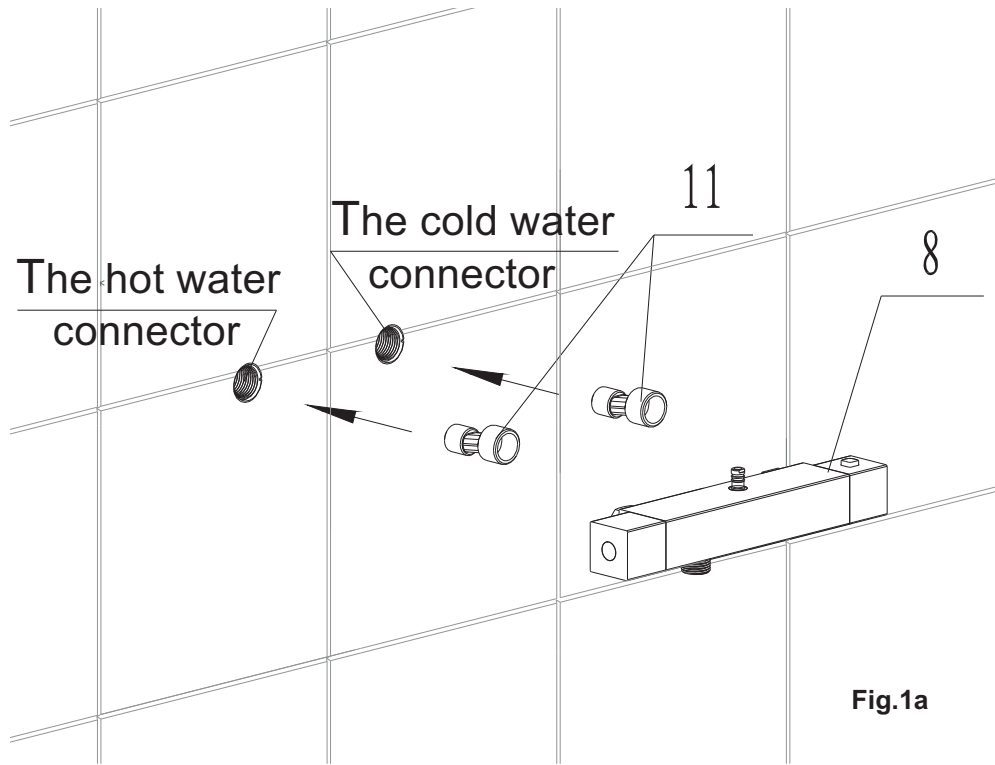
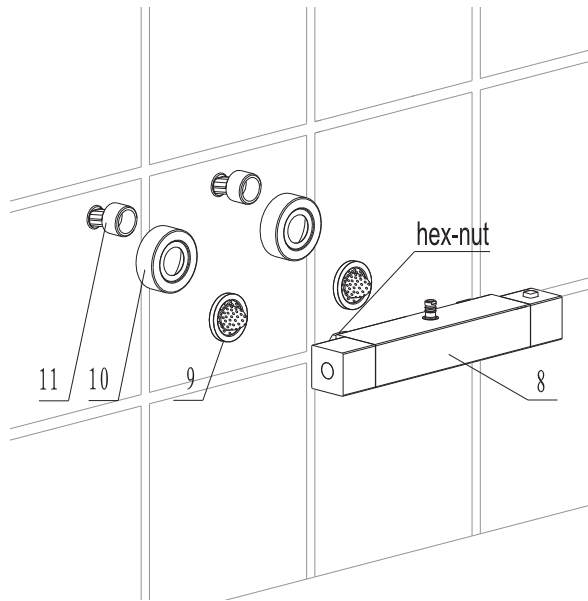

Fig.1a
Fig.1b
4.1 Pre-Installation (See Fig.1a & 1b)
## 4.2 Installation (See Fig.1a &1b)
## 7 Component Parts (See Fig.1a, Fig.1b & Fig.2)